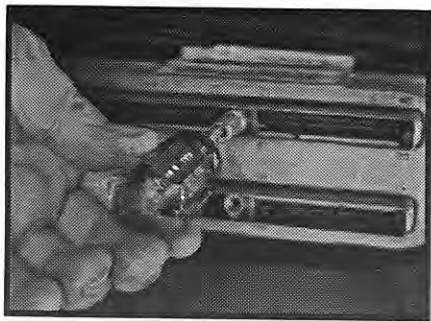

Figure 5
5. Install the JET extender bolt onto the ECM (computer). Tighten the extender bolt all the way down until it bottoms out. (see Fig. 5).